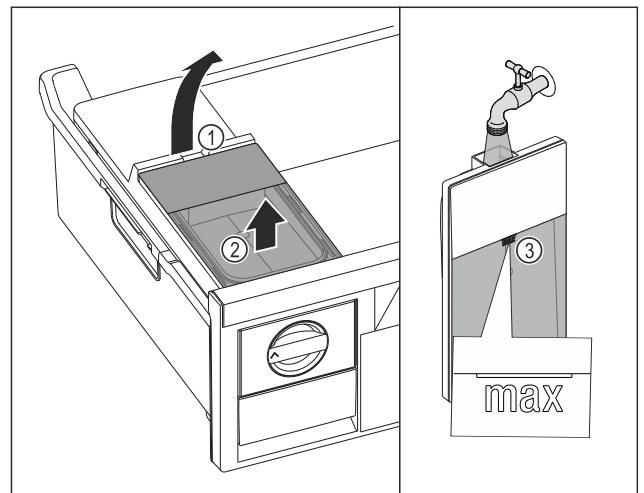

Fig. 149
- ▶ Lift the water tank at the recess Fig. 149 (1).
- ▶ Remove the water tank by lifting it upward. Fig. 149 (2)
- ▶ Fill the water tank with drinking water up to the mark Fig. 149 (3).